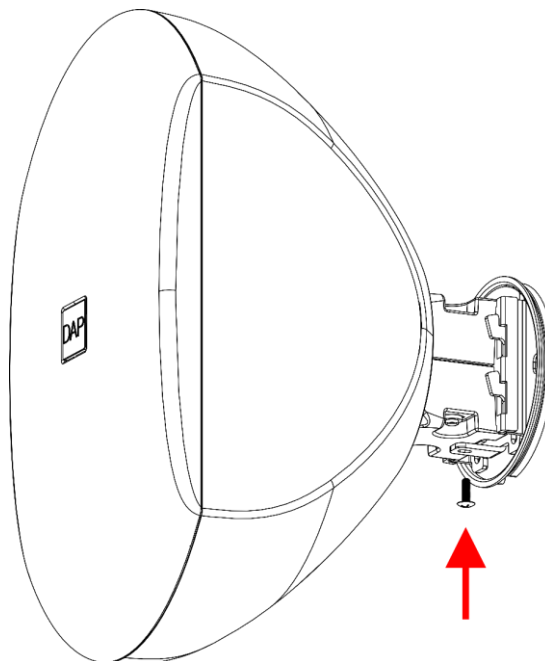

Fig. 20
- 03) Insert the **mounting screw (11)** and tighten it with the Phillips screwdriver (Fig. 20).